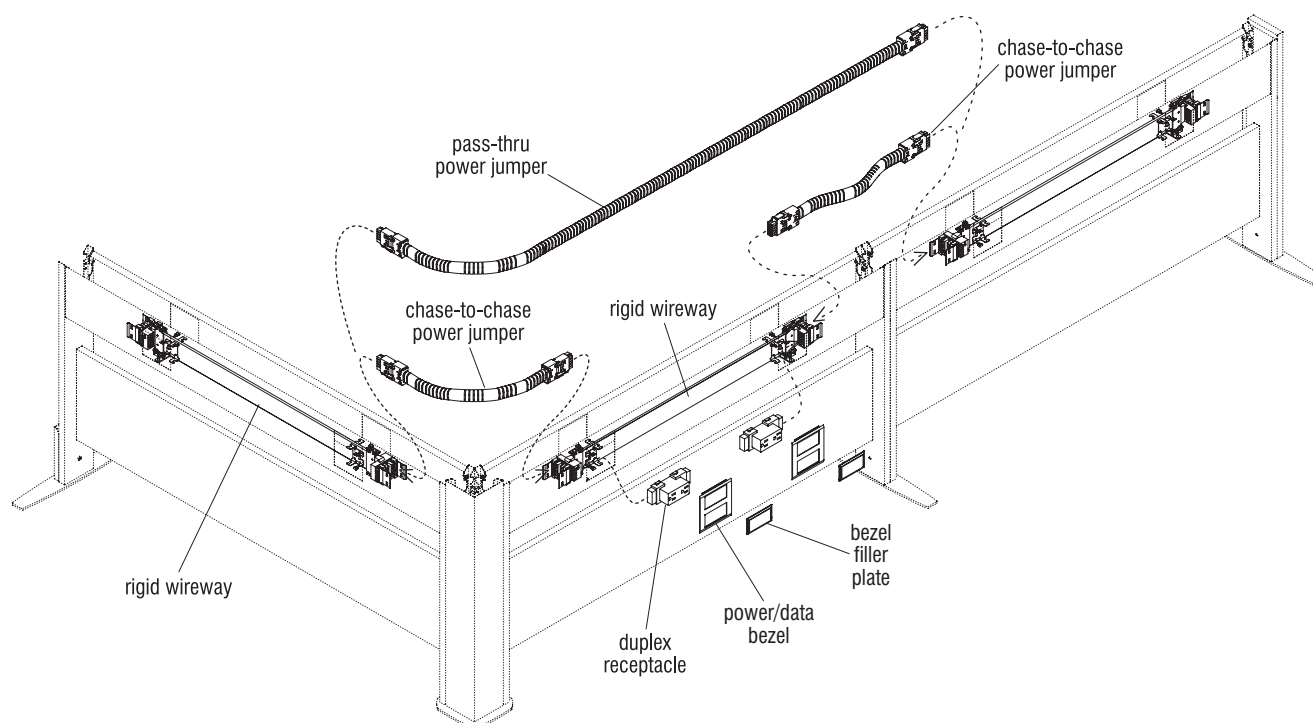

Figure 6 - Electrical Components
1. Install duplex receptacles first. Where specified by the space-planning layout, rotate the receptacle through the side opening in the chase trough assembly and snap the receptacle into the 10-wire rigid wireway as illustrated (Figure 6).
2. The opening in the bezel above the receptacle will require either a filler plate or a data plate (installed later, leave open now). If data is not specified for above a receptacle, snap a bezel filler plate into the power/data bezel at this time and snap the bezel into the rectangular opening in the trough (Figure 6).
3. Per the space-planning layout, determine the location of chase-to-chase power jumpers and snap them into place between rigid wireways (Figure 6).
4. To continue power from a chase with a 10-wire rigid wireway, through a chase with no power, into a chase with a rigid wireway, a pass-thru power jumper is required (Figure 6).